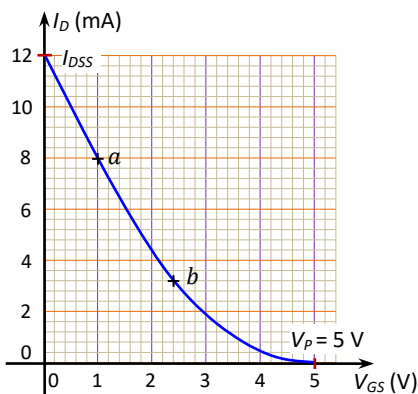

Fig.7-54: Transfer characteristic for Exer. no. 5
5. Fig.7-54 shows two points (a and b) on the transfer characteristics of a P-channel JFET. Calculate the value of g_m at these points using this graph, Equ.(7-5), Equ.(7-6), and Equ.(7-11).